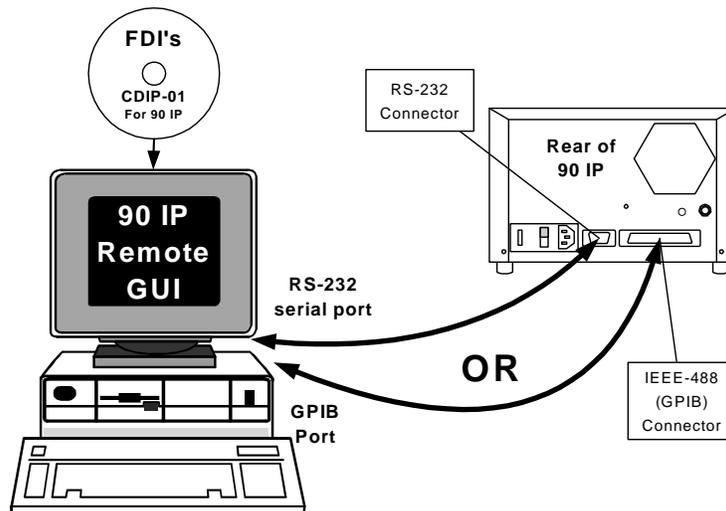
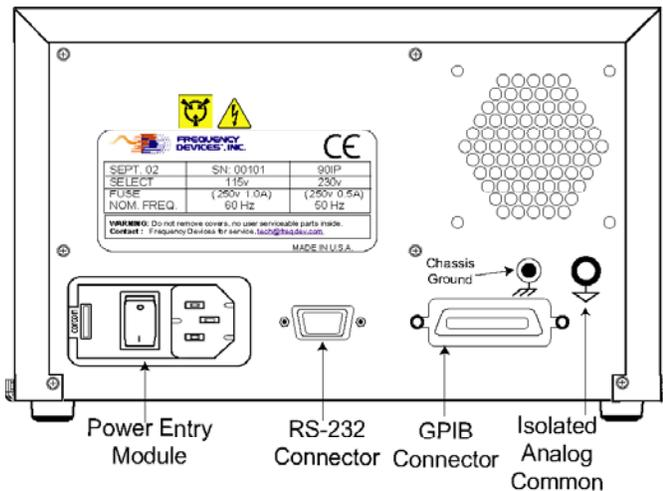

Figure 1.3 - GPIB & RS-232 Interconnection
Figure 2.1b – 90IP Rear Panel
Each Model 90IP controller contains a hard front panel that provides Function and Select capabilities, an Enter button, and a backlit Liquid Crystal Display (LCD). Upon selection of each slot card (1 thru 4), smartSLOT Technology automatically configures each cards control functions. Soft front panel operation is available via the GPIB or RS232 communication ports (Figure 1.3).
See Figure 1.3 for the typical GPIB & RS-232 setups,
The Model 90IP consists of a chassis, controller, and space for up to four smartSLOT, slot cards that interface directly with a remote control PC, fitted with RS232 or a GPIB or interface card. 90IP controller connectors are shown in **Figures 2.1b & 2.1c**. Standard GPIB or RS-232 cable connections are shown in **Figure 1.3**.
3.4 – AC Line Voltage Selection (90IP) - See Figure 2.1B